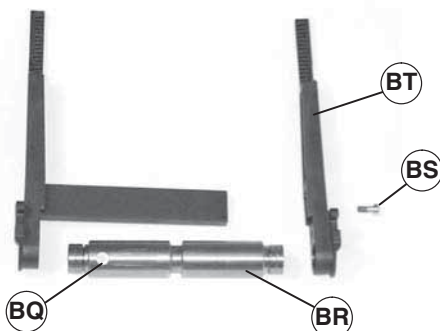

Figure 37
Note which side of conveyor magnet (Figure 37, item BQ) is located.
- Locate magnet (Figure 37, item BQ) on spindle and bearing assembly (BR).